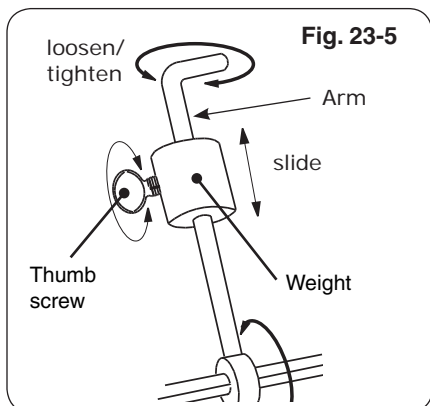
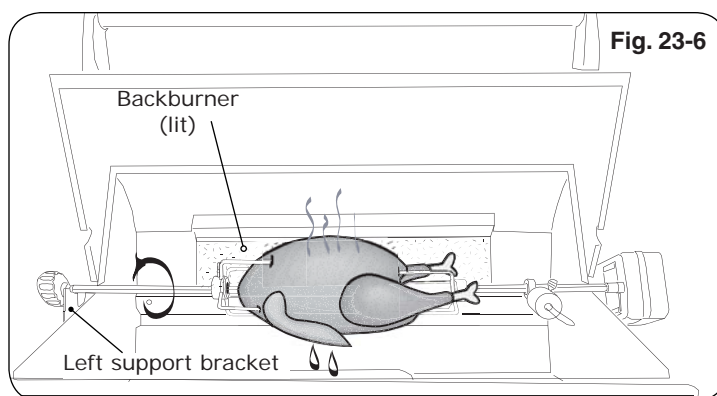

Fig. 23-5
Fig. 23-6
9. Slide the counterbalance weight up or down the arm until the rod rotates most evenly then tighten thumb screw (Fig. 23-5 and Fig. 23-6).